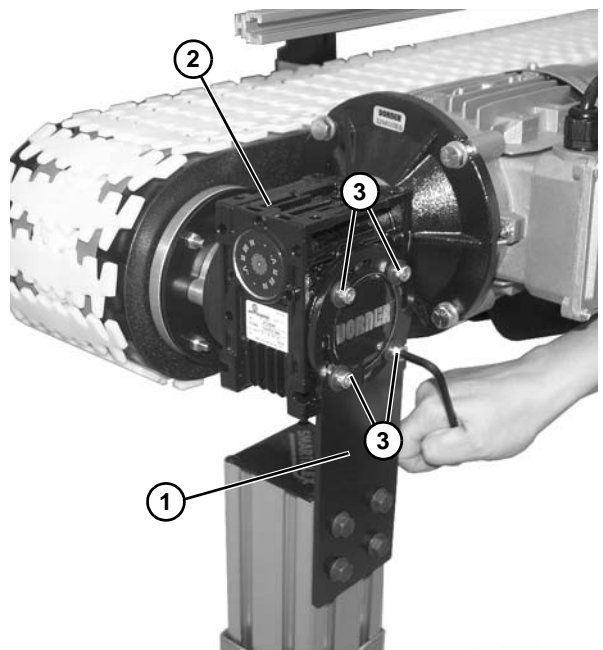

Figure 52
5. Install drive motor stand mounting bracket (Figure 52, item 1) onto the drive motor (Figure 52, item 2) with four washers and socket head screws (Figure 52, item 3).